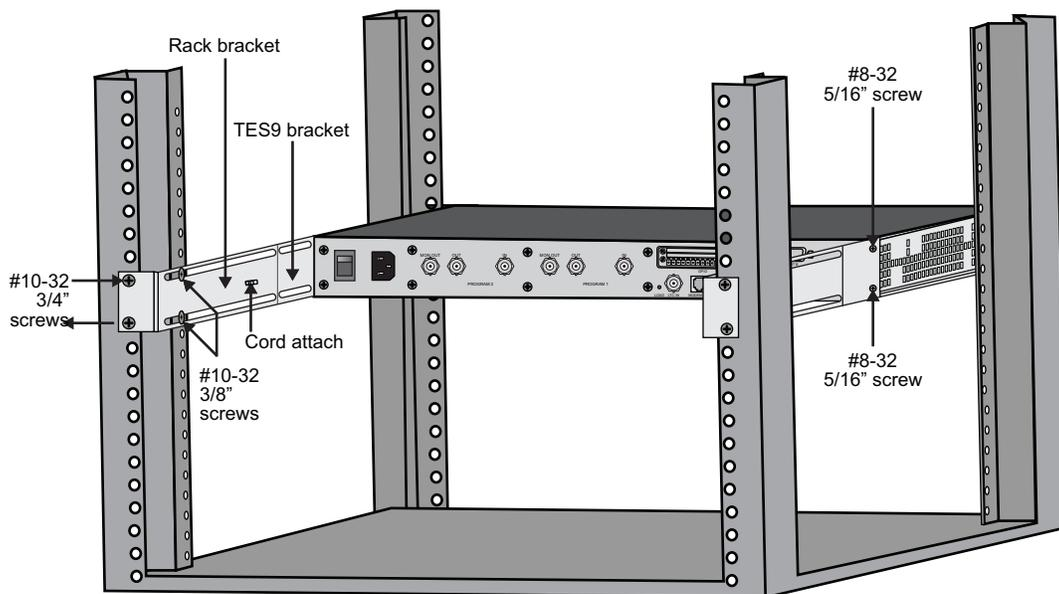

Figure 3.1 TES9 Rear View — Rack-mounting Detail
This section describes how to mount the TES9 in the rack. In using these instructions, consult **Figure 3.1**. Note that the TES9 should be attached to both the front and rear of the rack; because of the weight of the potentially large number of cables connected to the rear of the TES9, rear rack mounting is strongly advised.
1. Attach the rear TES9 brackets (41-10437-01) to both sides of the chassis using the mounting holes near the rear of the TES9. Use the #8-32 flat-head screws, and insert them through the countersunk holes in the bracket into the mounting holes on the TES9. See **Figure 3.1**.
5. Attach the two rear rack brackets to the nut clips installed in the preceding step, using two 3/4" #10-32 screws for each bracket. See in **Figure 3.1**. Before tightening the screws, ensure that these brackets contact the inner side of the brackets mounted to the TES9; that is, they should be closer to the center of the rack than the ones on the TES9. The slots in these brackets should also be approximately aligned with the screw holes in the TES9 brackets.
6. Install two 3/8" #10 screws through the slots in each rear bracket into the captive nuts near the rear end of the TES9 brackets. See **Figure 3.1**.
8. Insert a tie-wrap through the strain relief bridge on the rack bracket near the TES9 power entry module; see **Figure 3.1**. Pass the tie-wrap around the power cord and tighten it to prevent the power cord from being inadvertently pulled out of the TES9.